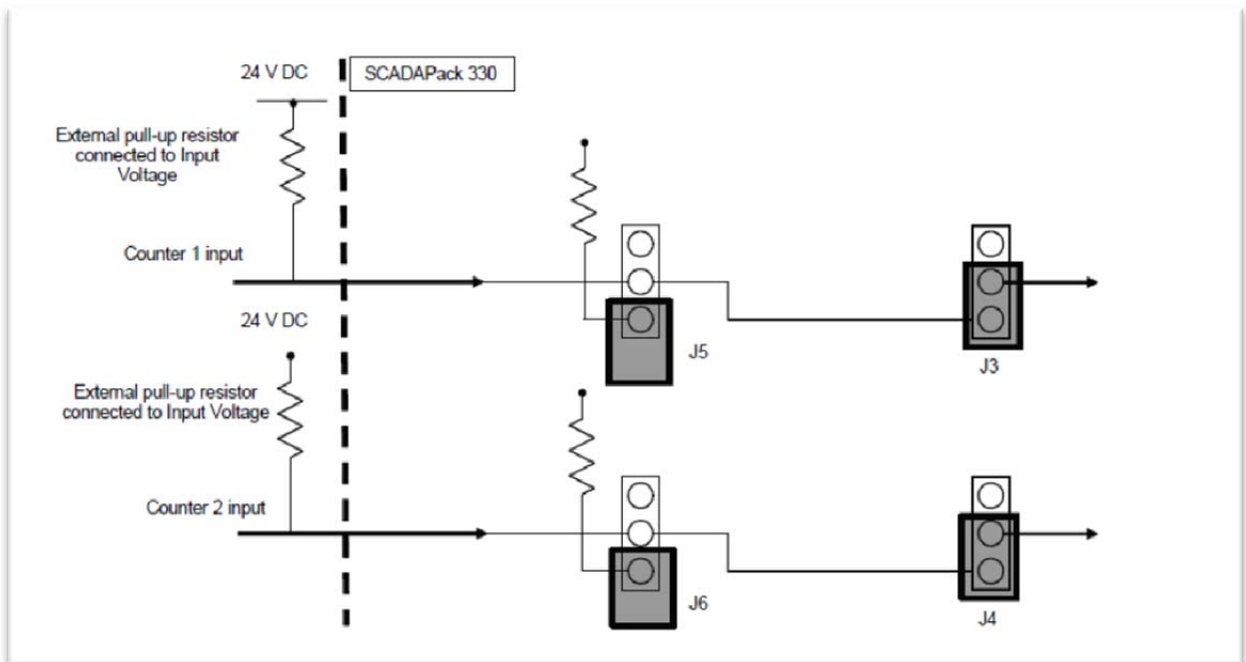

Figure 2. SCADApack 330 Circuit Diagram 24V
- This jumper is not used and can be stored, if required, on the single header pin as shown in **Figure 2**.